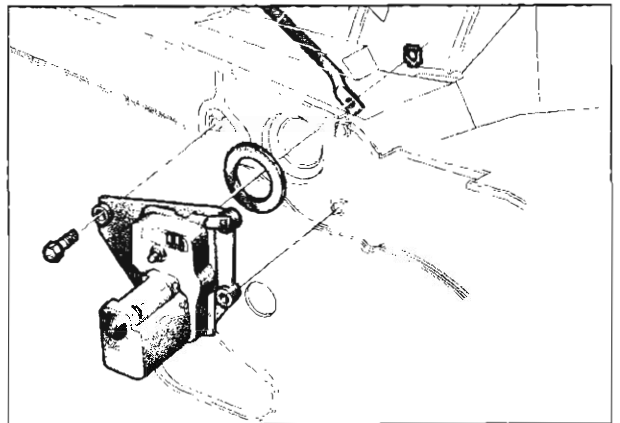

Fig. 56—Wiper Motor Removal
3. Remove wiper motor and disconnect special clip retaining transmission drive arm to motor crank arm (Fig. 56). See Wiper Motor Removal.
Removal and Installation (fig. 56)